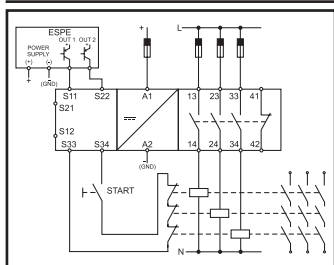

Fig. 7: ESPE: 2 uscite PNP a 2 fili /
- ESPE with two PNP two-wires outputs (e.g. optocoupled PNP-type): connect both emitter outputs to the S21 terminal and the collector outputs to the S11 and S22 terminal, leaving S12 not connected (fig. 7, max. Safety cat. 4, PL: e).
In Fig. 7 and 8 are shown the connections of ESPE with 2 two-wires outputs: one ESPE common point is connected to S21, while the outputs are connected to S11 and S22. The category of the appli-